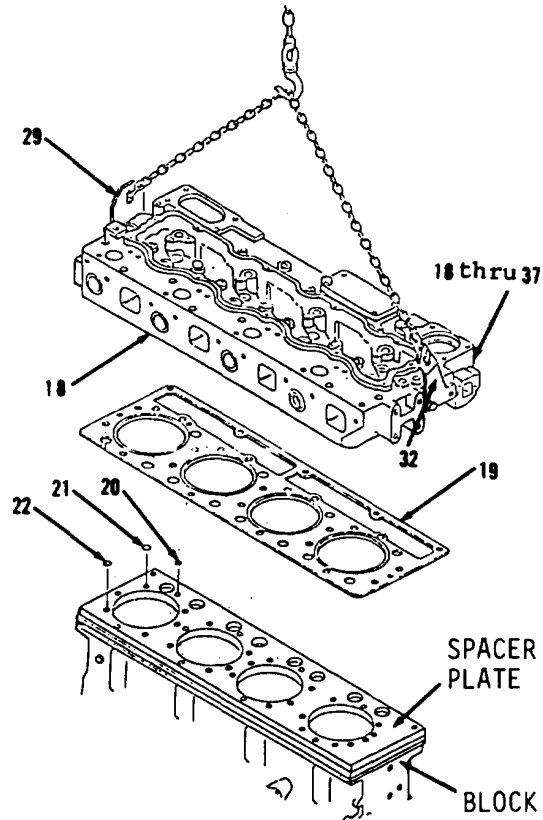

Figure 3-37.
13. Attach hoist and sling to plates (29 and 32, Figure 3-37).
14. Using hoist and sling, remove items 18 thru 37 as an assembly from engine.